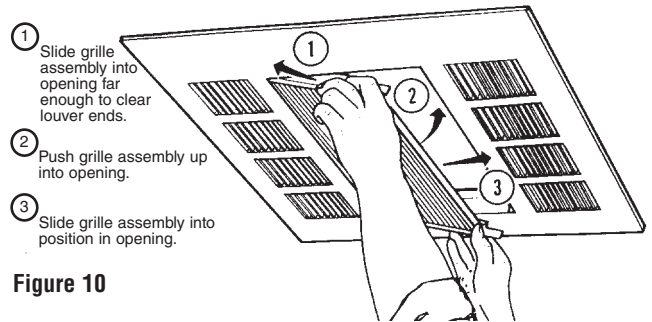

Figure 10
5. While holding the assembly together with both hands, fit one side of assembly into the opening of the enclosure, and slide this side inward while fitting the opposite side into the enclosure. (See Figure 10.) Slide the assembly into position so that the bottom portion of each guide locks into the opening.